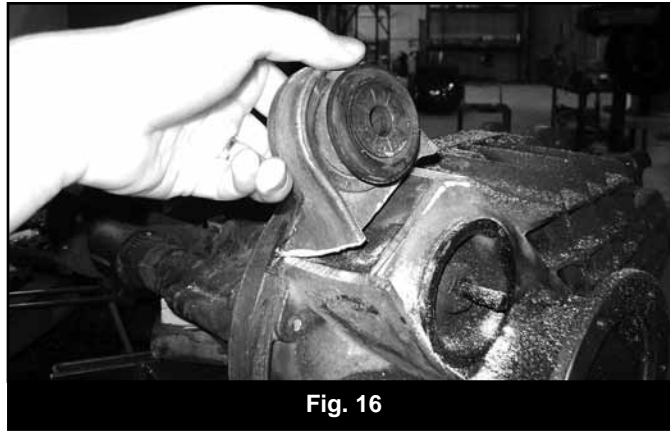

Fig. 16
33. The front driver's side differential mounting eye must be removed from the differential (Fig 16). Mark the eye with a cut line smooth to the housing. Using a sawzall, cut the mounting eye off of the housing. Do not cut into the main housing body.